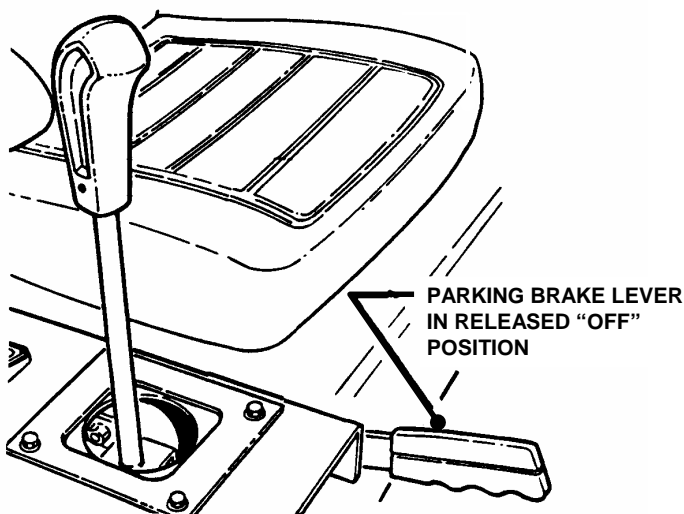

FIGURE 3.7
2. Release parking brake by pushing parking brake lever forward to the released position. See Figure 3.7.